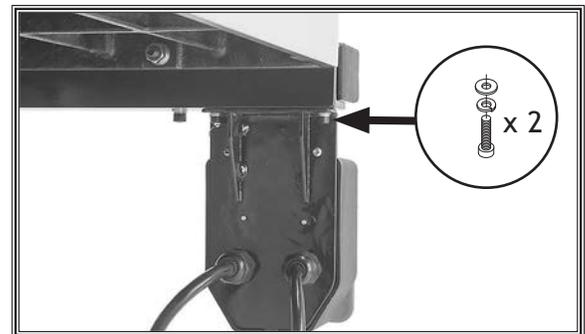

Figure 33. Switch installed.
26. Attach START/STOP switch to bottom left-hand side of front rail using (2) M5-.8 x 14 cap screws, 5mm lock washers, and 5mm flat washers, as shown in Figure 33.